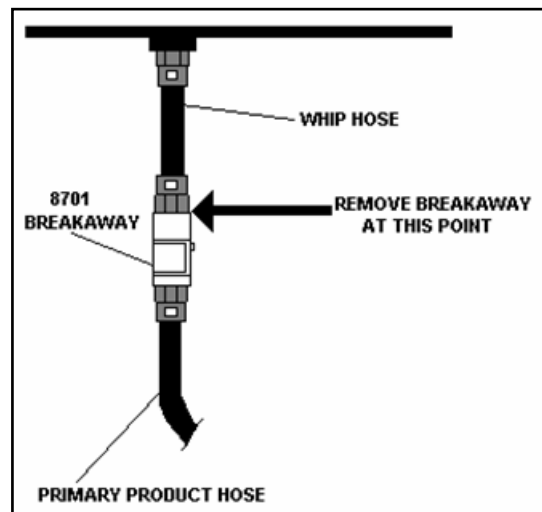

Figure 2: Breakaway Location
3. Use wrenches to remove the complete breakaway and main hose assembly from the pigtail (whip-hose) assembly from the dispenser. **NOTE: Use wrenches on just the upper half of the breakaway assembly as not to damage the shear screw. Refer to Figure 2 on next page.**